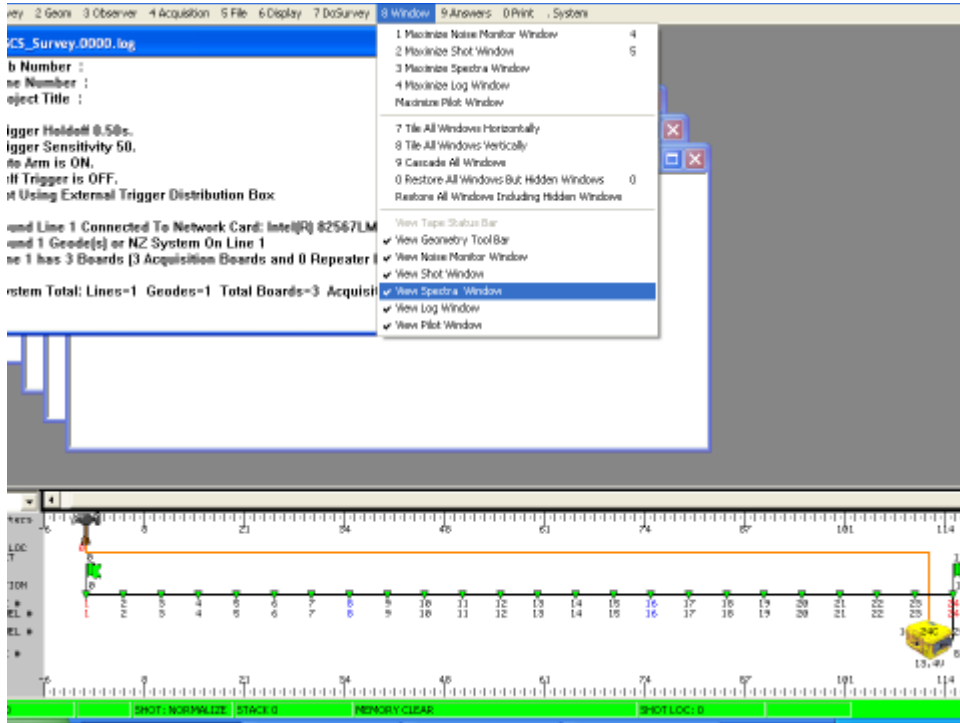

Figure 5. Checkbox options for the “Windows” Menu
- In the “Windows” menu at the top toolbar, uncheck the Pilot and Spectra windows or Pilot and Log windows, and Tile all Windows Vertically (see Figure 5)